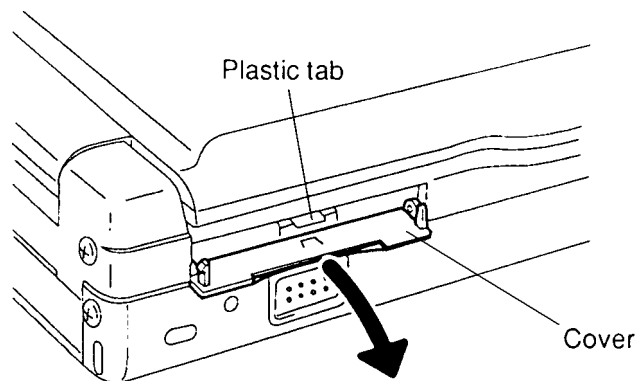

Figure 4-2 Opening the Optional Memory Card Cover
To remove an optional memory card from the T4500/T4600 Family computer, follow the steps below and refer to Figures 4-2 and 4-3.
3. Open the **cover** to the **expansion memory slot** (Figure 4-2).
4. Grasp the **plastic tab** and pull it so the card comes partially out of the computer (Figure 4-2).
2. Close the **expansion memory cover** (Figure 4-2).